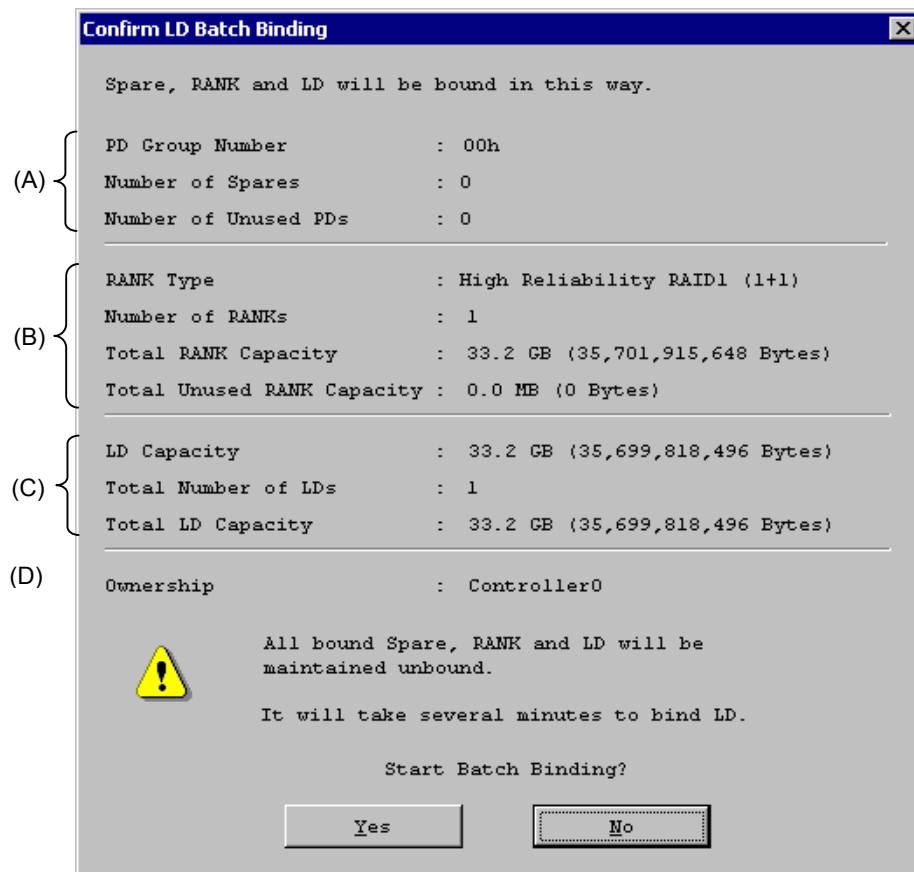

Figure 8-24 Confirm LD Batch Binding Screen
**(6) Confirm LD Batch Binding screen**
Click the [OK] button after entering the required parameters into the LD Batch Bind screen described in (5) to display the confirmation screen shown in Figure 8-24.